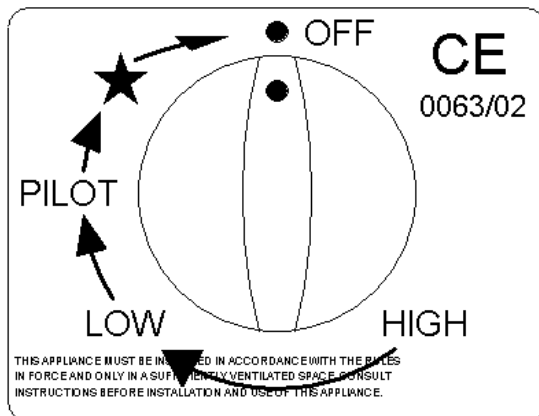

Fig 5f
Step 4. To extinguish the pilot, turn the control knob to the **OFF** position. (Fig 5f)